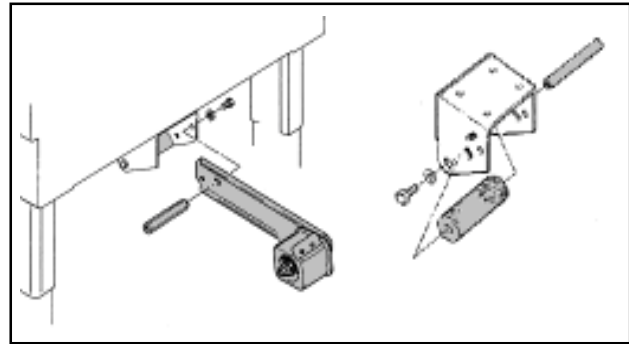

Figure 1
Note: This kit requires the use of parts from the existing outboard tape roll mount on your 3M-Matic™ Case Sealer. The actual outboard assembly from your case sealer might differ from Figures 1.
- 2) Remove and retain the roller(s) and shaft(s) (See figure 1).